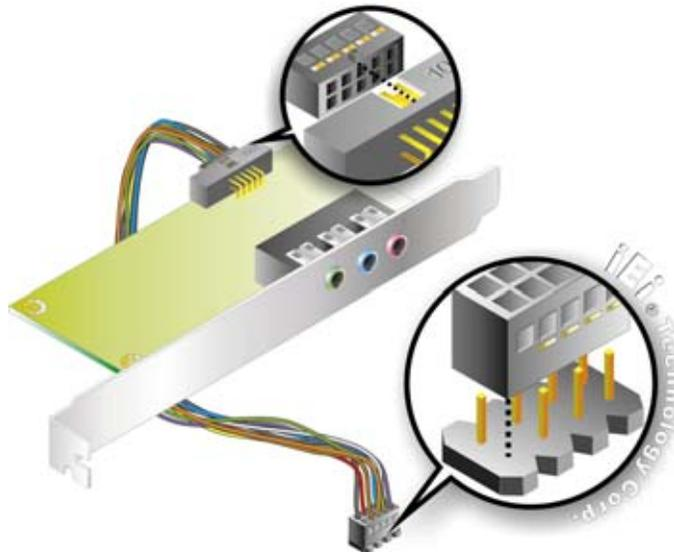

Figure 4-5: 5.1 Channel Audio Kit
Step 6: Align pin 1. Align pin 1 on the on-board connector with pin 1 on the audio kit cable connector. Pin 1 on the audio kit cable connector is indicated with a white dot. See Figure 4-5.